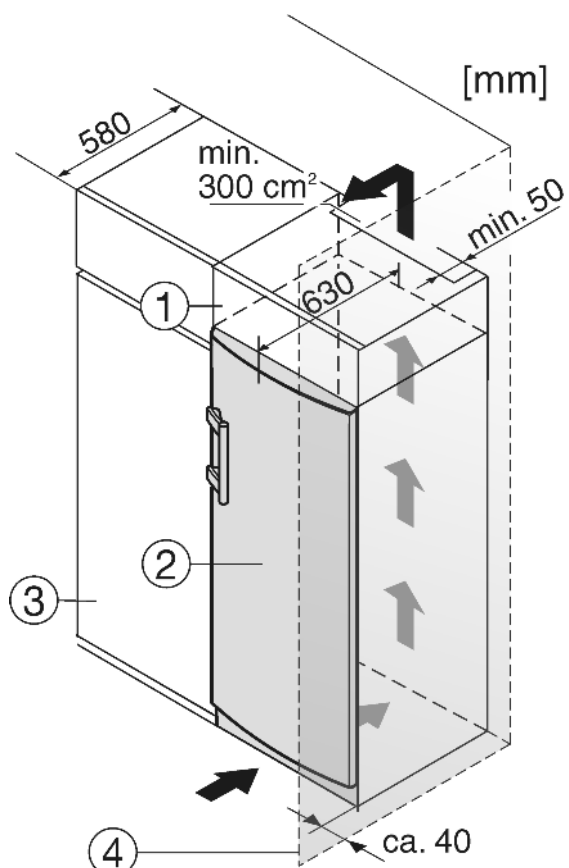

Fig. 8
- (1) Stack cabinet                      (3) Kitchen cabinet
(2) Appliance                         (4) Wall
The appliance can be built into kitchen units. A top cupboard Fig. 8 (2) can be added above the appliance in order to bring the appliance Fig. 8 (1) up to the height of the fitted kitchen units.
When retrofitting with kitchen cabinets (max. depth 580 mm) the appliance can be installed directly next to the cabinet Fig. 8 (3). The appliance door projects 34 mm from the front of the kitchen cabinet at the side and 50 mm at the centre of the appliance. This is so that it can be opened and closed easily.
If the appliance is installed with the hinges next to a wall Fig. 8 (4), the distance between appliance and wall has to be at least 40 mm. This corresponds to the projection of the handle when the door is open.